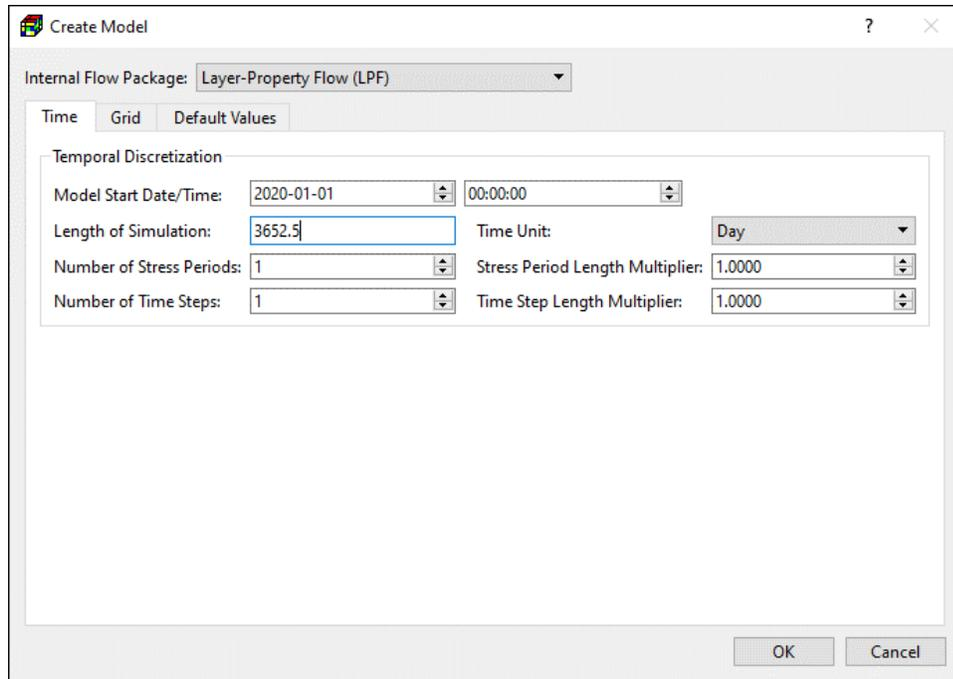
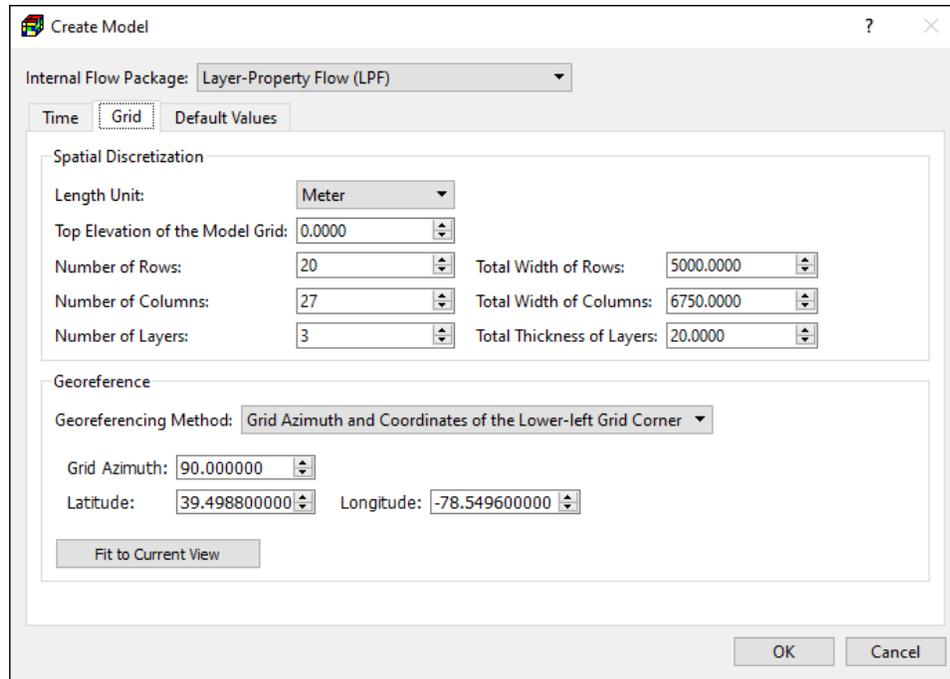

Figure 3. The Time tab of the Create Model dialog box
Figure 4. The Grid tab of the Create Model dialog box
3. As soon as the file is saved, the Create Model dialog box appears. We use the Time tab (Figure 3) to define the temporal discretization and use the and Grid tab (Figure 4) to define the spatial discretization of the model. All values may later be modified when necessary. For this tutorial, the following values and the other default values are used.
- Time Tab (Figure 3):
- Grid Tab (Figure 4):